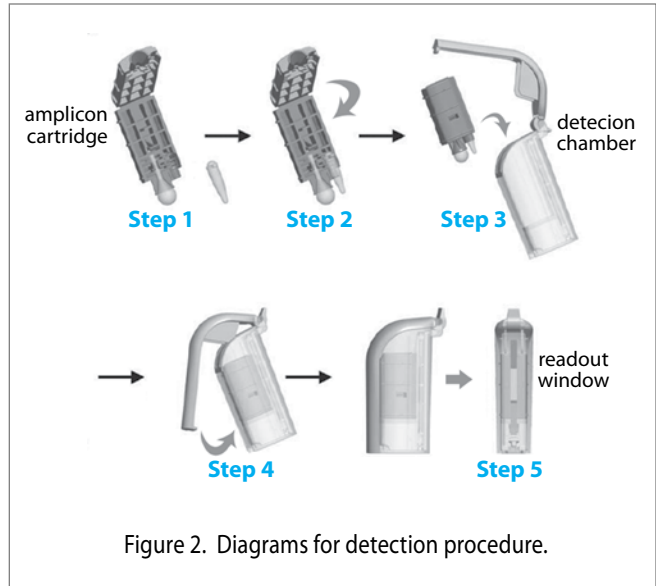

Figure 2. Diagrams for detection procedure.
3. Insert the tube in an amplicon cartridge next to running buffer (Fig. 2, step 1). Fold the cartridge in half and firmly close it (Fig. 2, step 2), revealing an arrow on the top.
4. Insert the closed cartridge halfway in a detection chamber (Fig. 2, step 3), with the arrow pointing the DNA test strip: do not use force to push it down.
5. Keep the assembled cassette upright and lower the handle and push it into the chamber body to close the cassette (Fig. 2, step 4). The handle will push the cartridge down, and lock into place when closed completely (Fig. 2, step 5).